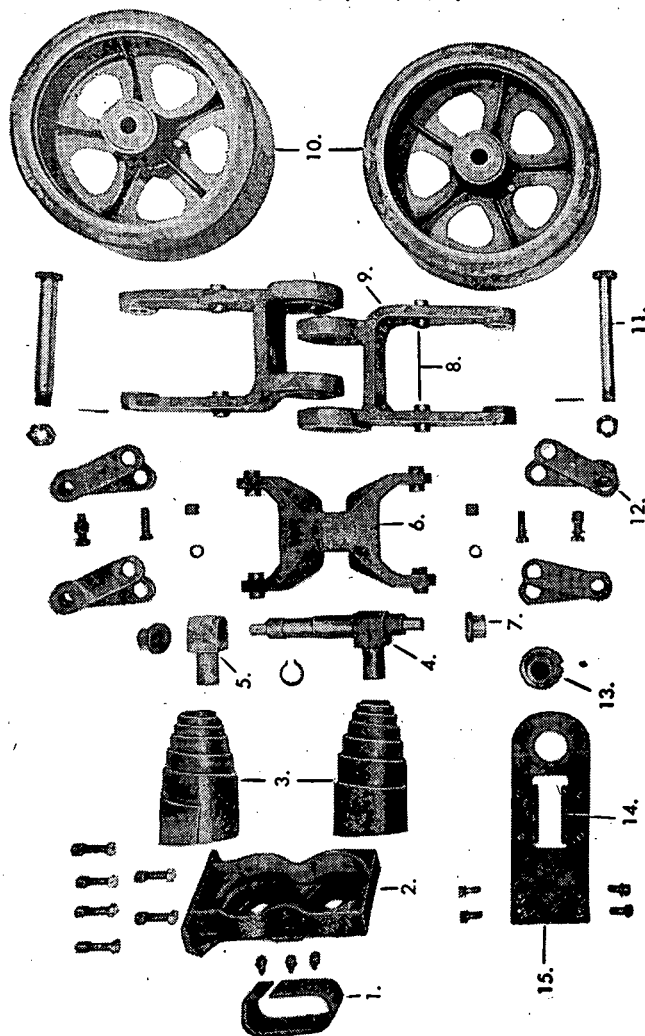

FIGURE 74.—Parts of bogie assembly.
d. *Disassembly of bogie* (fig. 74).—When failure of any of the bogie components makes replacement necessary or when it is desirable to check components for wear, disassemble the bogie using the following procedure: